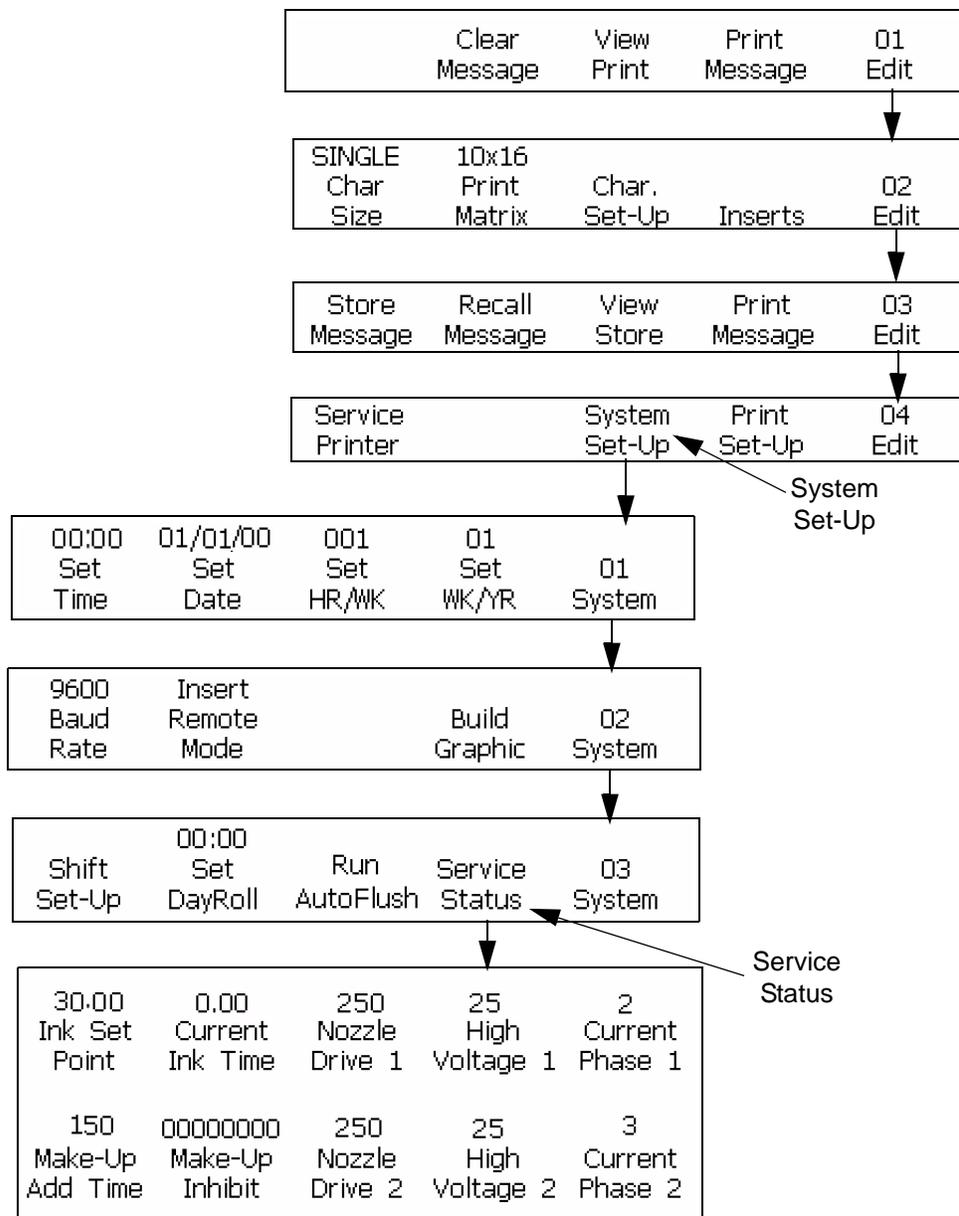

Figure 7-12: Access Service Status frame
- 1 Begin with the Frame <03 System>. Refer to Figure 7-12 on page 7-21.